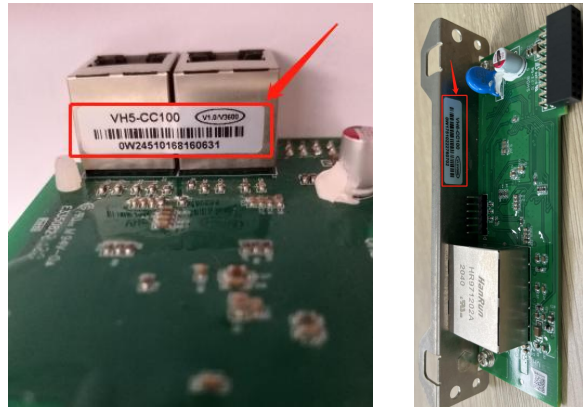

Fig. 1 Nameplate label location
- Confirm whether the received card is correct through the label on the board, refer to Fig1.